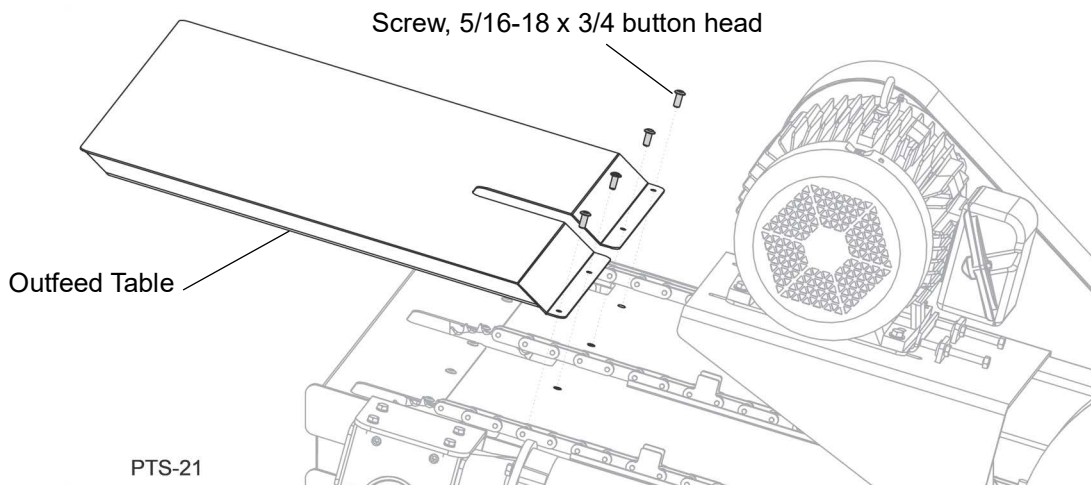

FIG. 3-1
1. Use a 3/16 hex key to unfasten the four 5/16 x 3/4 button head screws located in the threaded holes in the table. See Fig. 3-1.
2. Place the outfeed table in the orientation as shown in Fig. 3-1.